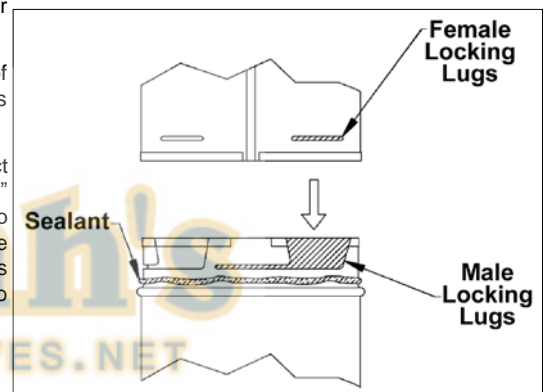

Figure 34: Twist-Lock Connection.
- (1) Twist-lock procedure: Four (4) indentations, located on the female ends of pipes and fittings, are designed to slide straight onto the male ends of adjacent pipes and fittings, by orienting the four pipe indentations so they match and slide into the four (4) entry slots on the male ends. Push the pipe sections completely together, then twist-lock one section clockwise approximately one-quarter turn, until the two (2) sections are fully locked.
- (2) Horizontal runs of vent must be supported every 3 feet (915mm). Wall Straps are available for this purpose.
- (3) Sealant is only necessary on the outer tube of the GS Pipe. Run a 1.25 inch (3mm) wide bead of sealant around the male end of the outer sleeve, as shown in Figure 34, and twist-lock the pipes or fittings together.